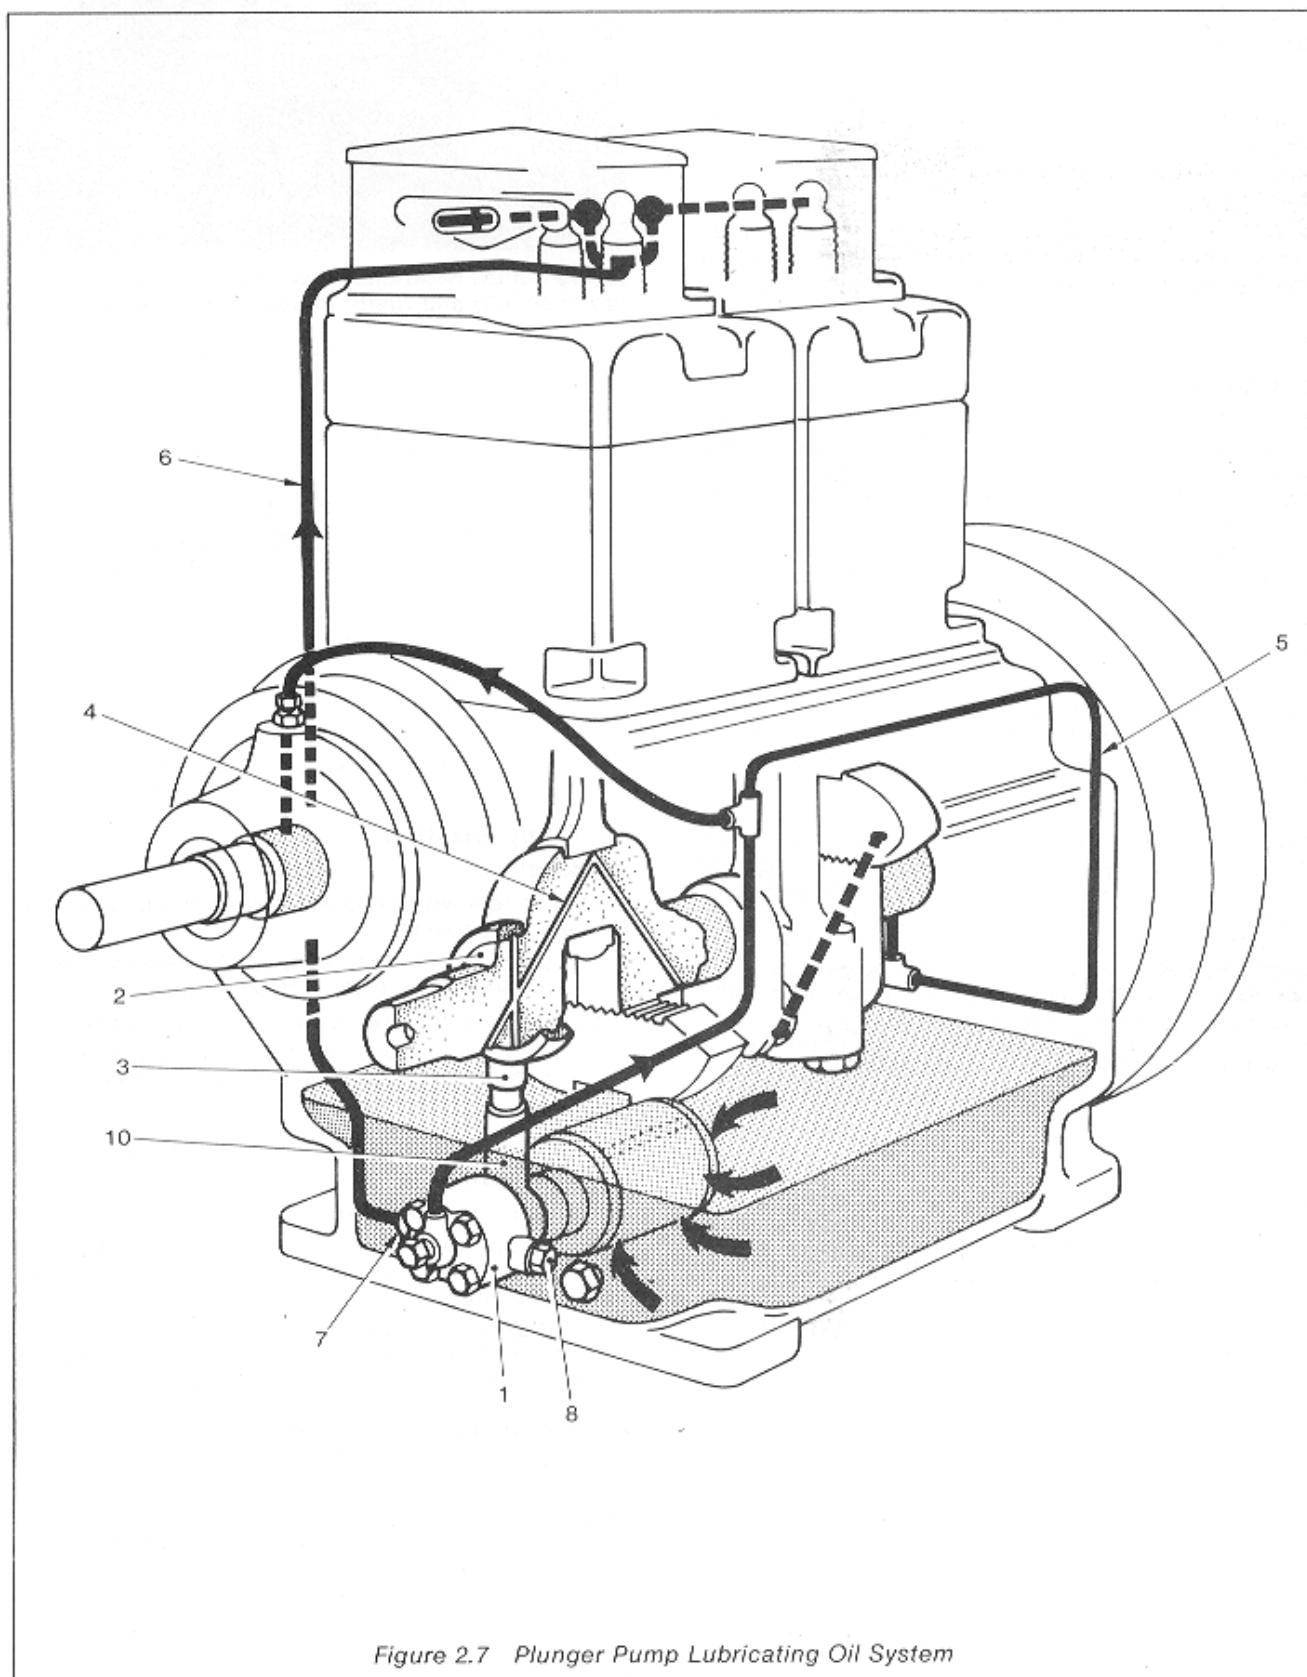

Figure 2.7 Plunger Pump Lubricating Oil System
**2.19** The lubricating oil system using a plunger type pump is shown in Figure 2.7. Lubricating oil is drawn from the sump via a strainer by the plunger pump (1) which is submerged in the oil at the gear end of the crankcase sump. The pump is operated by an eccentric (2) on the crankshaft.